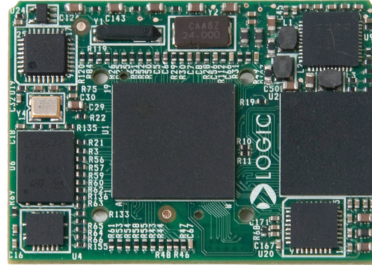

Figure 15: System on Module board.
- A System on Module (SOM) board with an OMAP-L138 processor, which consists of a TMS320C6748 DSP and an ARM9 processor (Figure 15).